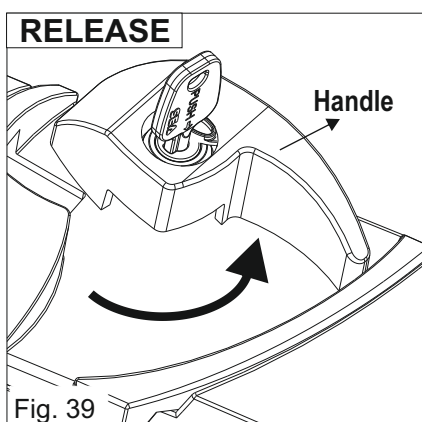

Fig. 39
- 3) Turn the handle counter-clockwise to release the operator (Fig. 39)